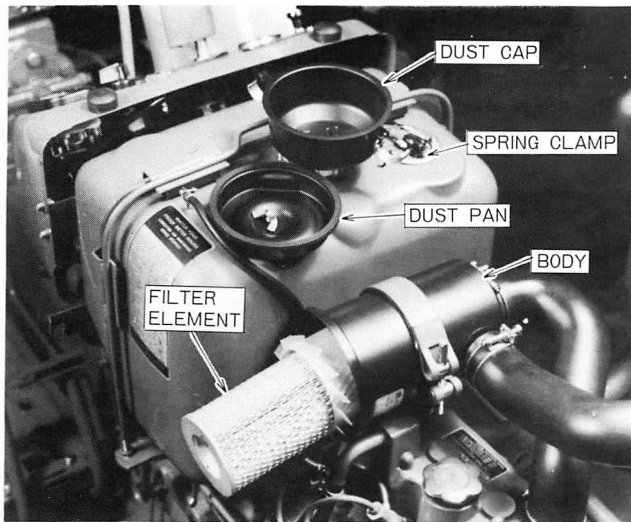

Figure 42 — Air Cleaner — Disassembled
Checking Dirt Level: Check the dirt level in the dust pan daily or every 10 hours (Figure 42).
1. Loosen spring clamps and remove dust cap, Figure 42.
2. Remove seal and dust pan from dust cap and clean dust cap, seal and dust pan using a damp lint free cloth, Figure 42.